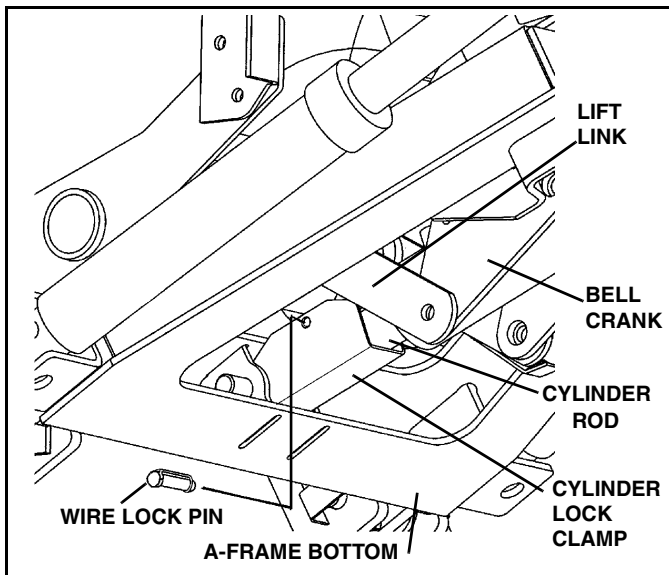

Figure 1-5
5. Position the cylinder lock clamp around the exposed (chrome) portion of the lift cylinder with the open side of the cylinder lock up. Install the pin. (See Figure 1-5).